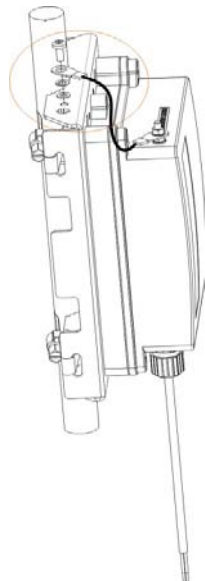

Figure 7
- b. Put a washer and a serrated washer onto the bolt and fasten it to the upper part of the fore-panel (see Figure 7).